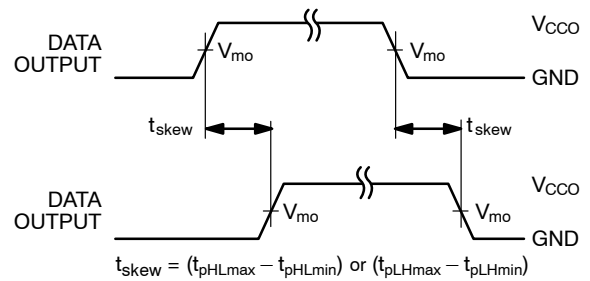

Figure 15. Output Skew Time
14. Skew is the variation of propagation delay between output signals and applies only to output signals on the same port (A_n or B_n) and switching with the same polarity (LOW-to-HIGH or HIGH-to-LOW) (see Figure 15). Skew is not tested.